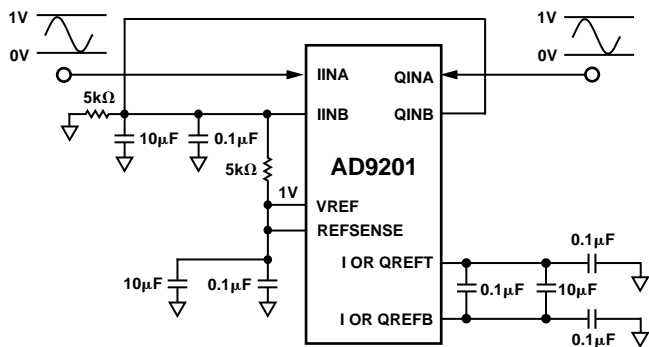

Figure 22. 0 V to 1 V Input
**1 V Mode (Figure 22)**—provides a 1 V reference and 1 V input full scale. Recommended for applications wishing to optimize high frequency performance, or any circuit on a supply voltage of less than 4 V. The part is placed in this mode by shorting the REFSENSE pin to the VREF pin.